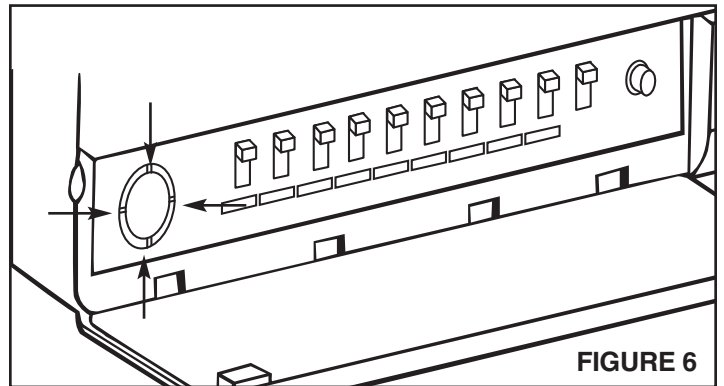

FIGURE 6
1. Refer to Figure 6. Open the left-hand door on the master station panel.